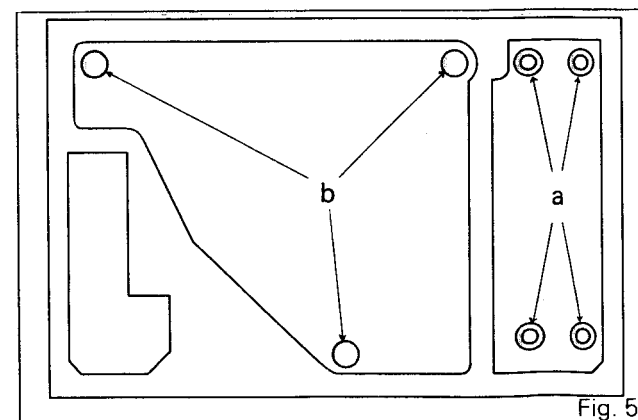
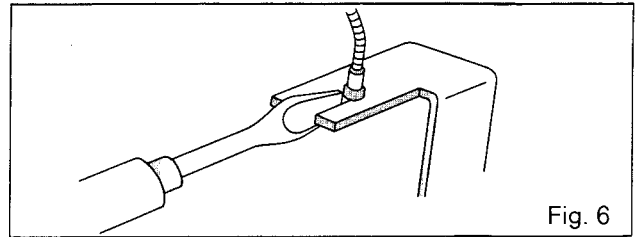

Fig. 5
Fig. 6
Pull the speed-change lever out, remove two red screws which fasten the motor and remove the four screws a shown in Fig. 5.
- (1) Remove the arm support.
- (2) Pull out the speed change lever.
- (3) Remove the four red screws.
- (4) Turn the set over and remove nuts b shown in Fig. 5.
- (5) Remove the shield case.
- (6) Disconnect from the lug terminal plate the five leads coming from the tone arm.
- (7) Remove the terminal angle B from the panel board.
- (8) Turn the drive gear 180° so that the return plate moves over the nut and remove the arm rest fixing nut. And pull out the arm rest.
- (9) Loosen the screw of the tone arm fixing plate boss and remove the tone arm fixing plate.
- (10) Remove the tone arm fixing nut and remove the tone arm.
- (11) Disconnect the release wire from the lifter base (Fig. 6).